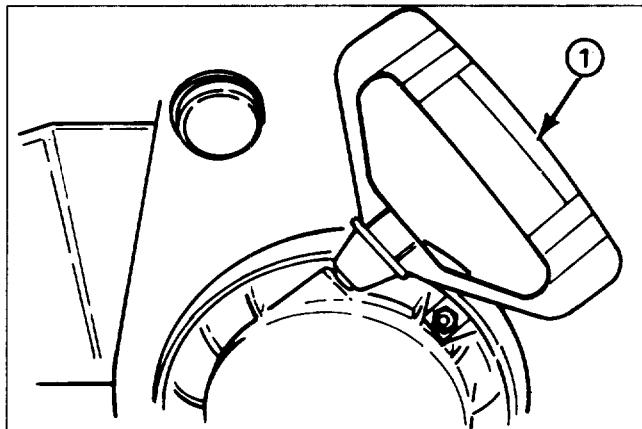

Figure 16
**Recoil Starter** (Fig. 16)—Recoil starter is on back side of engine. Pull recoil starter to start engine.
7. Grasp recoil starter handle (Fig. 16) and pull it out slowly until positive engagement results; then pull vigorously to start the engine. Keep firm grip on starter handle and return the rope slowly.